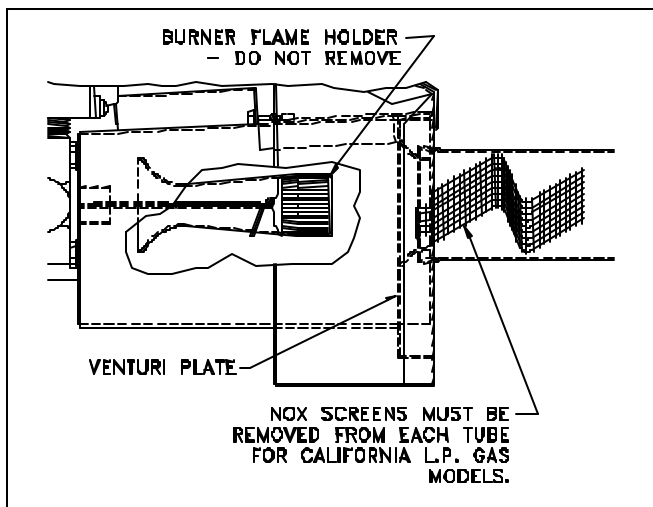

Figure 30. California NOx Screen Removal.
**WARNING:** Propane (LP) gas installations do not have gas meters to double-check input rate. Measure manifold pressure adjustment with an accurate manometer. Failure to accurately adjust pressure could cause heat exchanger failure.
NOTE: NOx reducing screens must be removed from each tube of California NOx furnaces when converting to propane (LP) gas. See Figure 30.